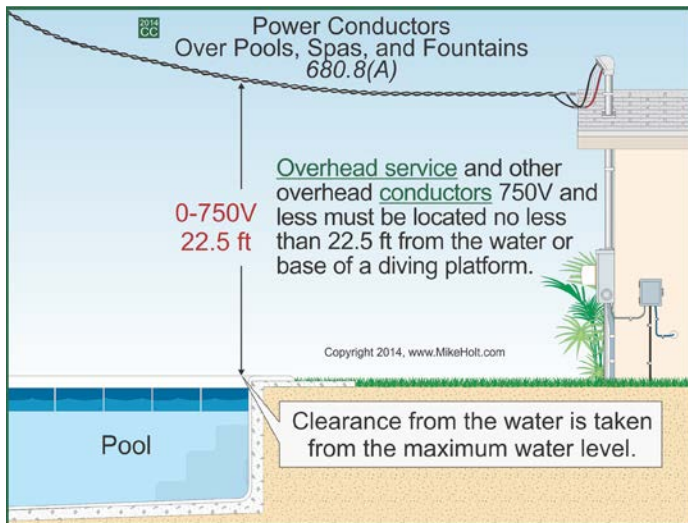

Figure 680-11
(A) Overhead Power Conductors. Permanently installed swimming pools, storable pools, outdoor spas, outdoor hot tubs, fountains, diving structures, observation stands, towers, or platforms near overhead service conductors and other overhead conductors must not be placed within the clearances contained in Table 680.8(A). *Figure 680-11*